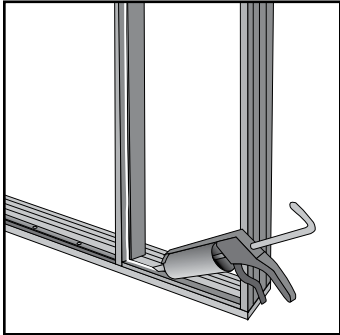

Fig. 16
- C2. For Custom Wood Doors:** To weatherproof sidelights, apply a bead of caulk along the inside rabbeted corner the entire length of the silight jamb leg, silight mull post, silight head jamb, and silight sill (**Fig. 16**).